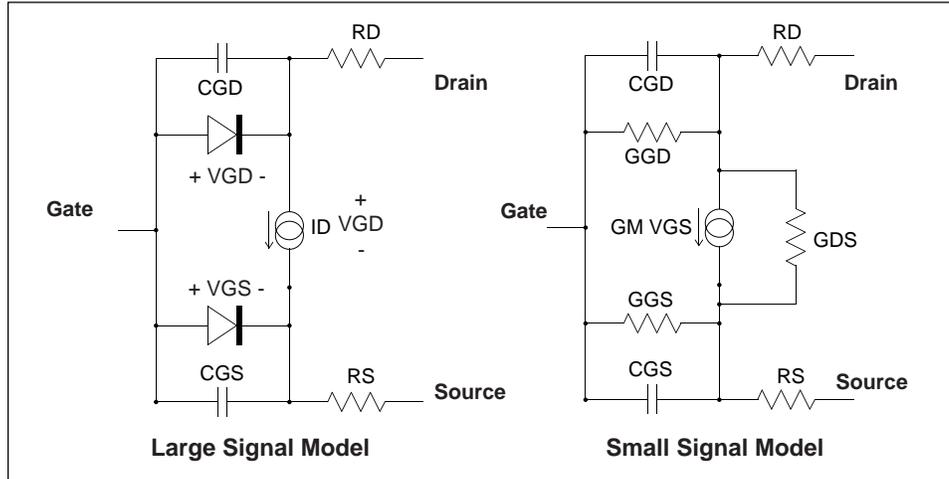

Figure 1, Large and Small signal models for the Statz *et al.* GaAs MESFET
The GaAs MESFET is a Schottky-barrier gate device. Its basic operation is like the JFET. The IsSPICE4 GaAs MESFET model is based on the research efforts of H. Statz, [4-1]. The large and small signal equivalent circuits for an n-channel MESFET is shown in Figure 1. The p-channel model is schematically identical except that all polarities are reversed.
The MOSFET equivalent circuit is shown in Figures 1 and 2. It is similar to the JFET model, except that one of the gate electrodes has been replaced by a semiconductor substrate and the gate itself is insulated rather than made by using a P-N junction. The IsSPICE4 MOSFET models are applicable to any insulated-gate FET. The MOSFET model is the only semiconductor device that has several command line options. The options are for the L (length in meters, default=100U), W (width in meters, default=100U), AD/AS (drain/source area in square meters, default=0), PD/PS (drain/source perimeter in meters, default 0), and NRD/NRS (equivalent number of squares of drain/source diffusion, default=1). The number of squares is multiplied by the model parameter RSH to find the drain and
**Figure 1**, The IsSPICE4 large signal MOSFET model is shown for an N channel device. For a P channel device  $V_{GS}$ ,  $V_{GD}$ ,  $V_{DS}$ ,  $V_{BS}$ ,  $V_{BD}$ , the two substrate junctions and the nonlinear current source  $I_D$  are reversed.